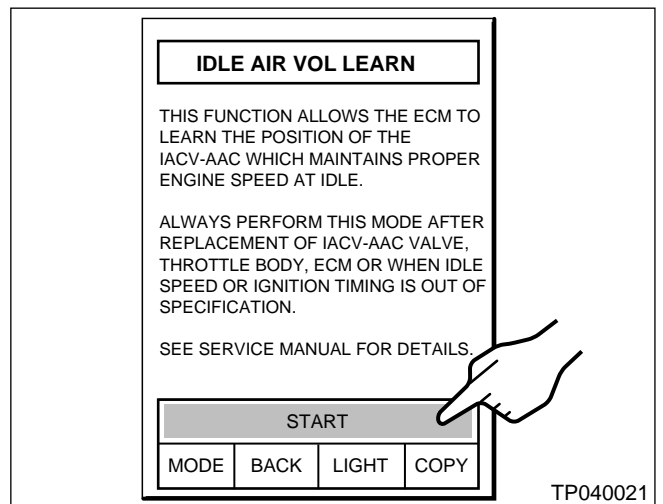

Figure 2
9. Press **START** on the "IDLE AIR VOL LEARN" screen. See Figure 2.